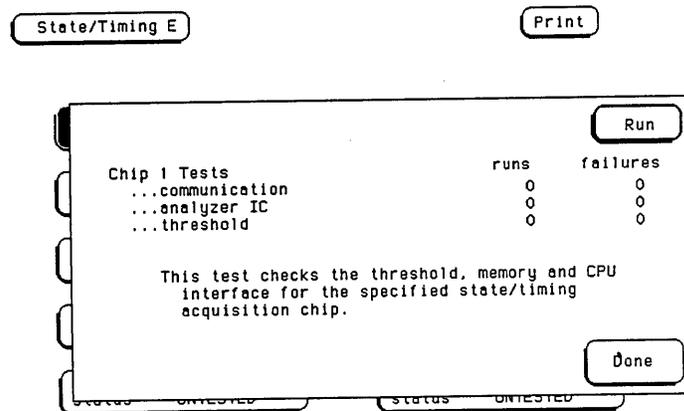

Figure 6-6. Chip 1 Tests Run Screen
- g. An individual test run screen, see figure 6-6, will give the test name, a brief description of the test, number of test runs, and the number of test failures.